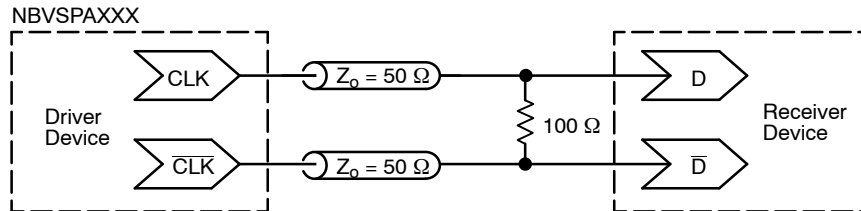

Figure 3. Typical Termination for Output Driver and Device Evaluation
3. Measurement taken with outputs terminated with 100 ohm across differential pair. See Figure 3.
5. Measurement taken with outputs terminated with 100 ohm across differential pair. See Figure 3.